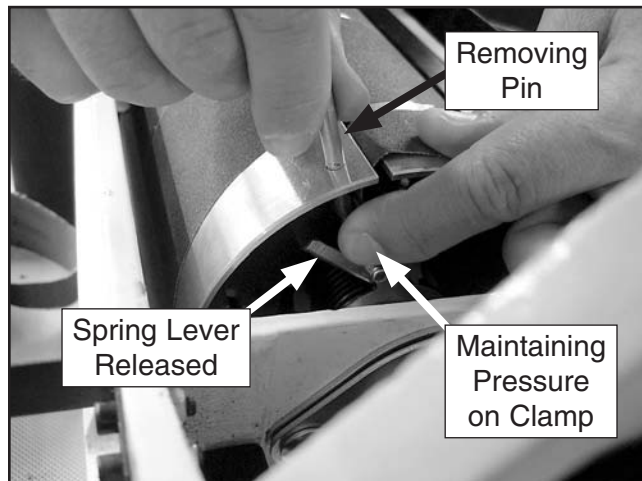

Figure 23. Properly securing the sandpaper end.
12. While maintaining pressure on the clamp with your finger as shown in **Figure 23**, remove the holding pin. Then, release the clamp—this will pull the sandpaper tight.